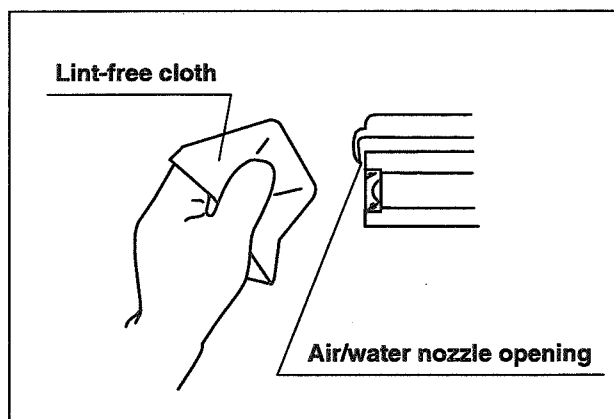

Figure 3.16
3. With the endoscope immersed, use a soft brush or lint-free cloth to thoroughly brush or wipe all external surfaces of the endoscope. Pay particular attention to the air/water nozzle opening and ensure that all surfaces of the distal end are cleaned thoroughly (see Figure 3.16).